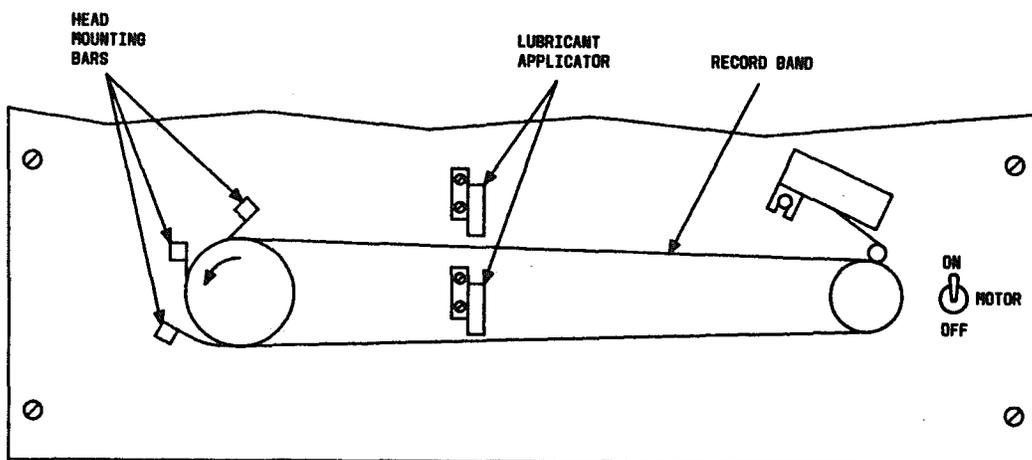

Fig. 5 - HQI-112 Record Band
- 5.2.3 Disengage record heads from contact with record band by pulling outward on head mounting bars (See Fig. 5) and rotating bar clockwise.